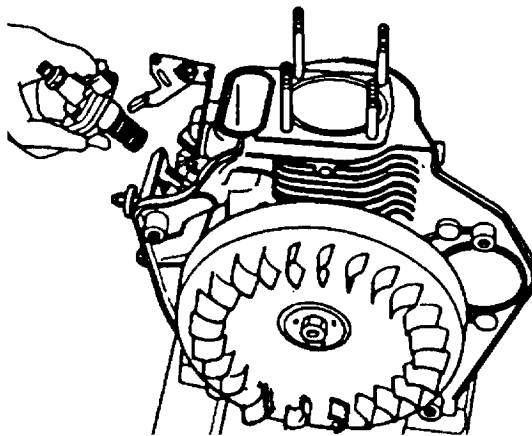

Figure 6-9 Removing the fuel pump
- 1) Remove the fuel injection pump assembly (see Figure 6-9).